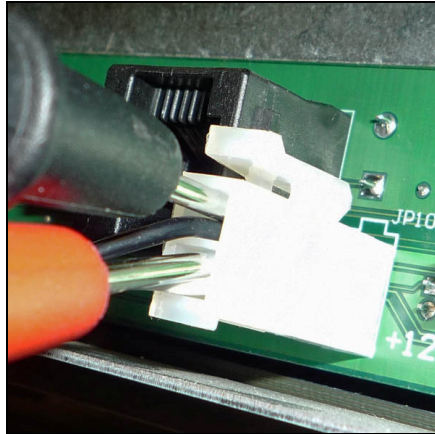

Fig. 5
1. Set the multi-meter to read DC voltage. Insert the leads into the plastic connector (Fig. 5). The leads must be in contact with the pin in the plastic connector to get a proper reading. There should be at least 11 VDC.